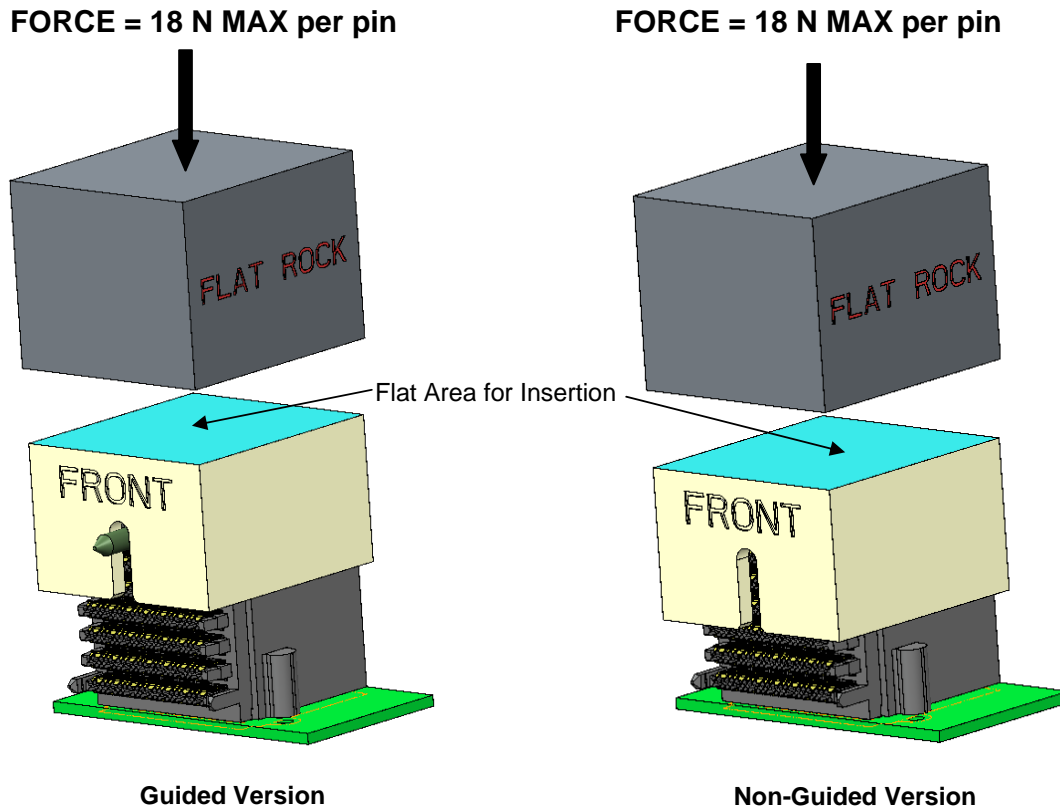

Figure 40: Flat Rock Tool Application to Seat RAOH Connector
- Using a flat rock surface and an insertion press, apply force to the top flat surface of the insertion tool, as shown in figure 40.